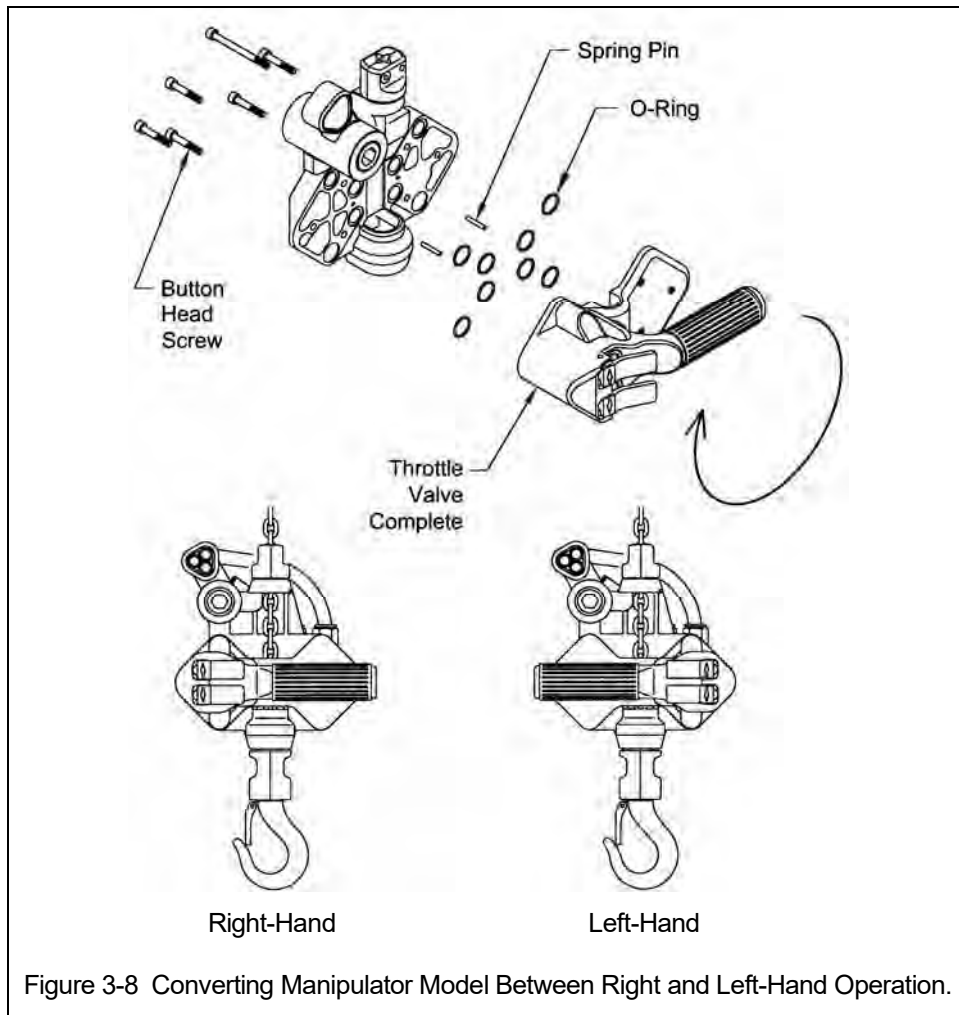

Figure 3-8 Converting Manipulator Model Between Right and Left-Hand Operation.
3.12.1 Follow instructions below to configure for right or left-hand operation. Refer to Figure 3-8.